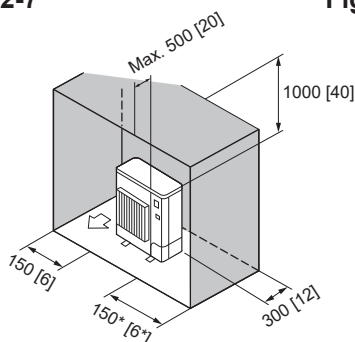

Fig. 2-11
- Obstacles at rear, sides, and above only (Fig. 2-11)